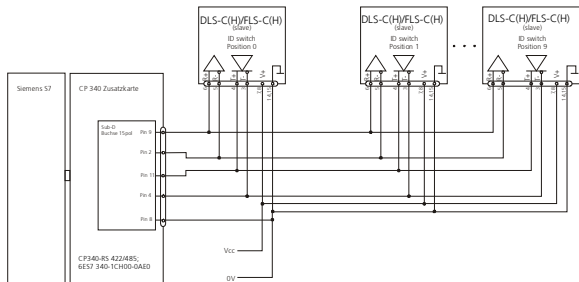

Fig. 2: RS-422 connection to S7 PLC
Fig. 2 shows the connection of multiple DLS-C(H)/FLS-C(H) devices to a Siemens S7 PLC. A detailed application note can be found on www.dimetix.com.